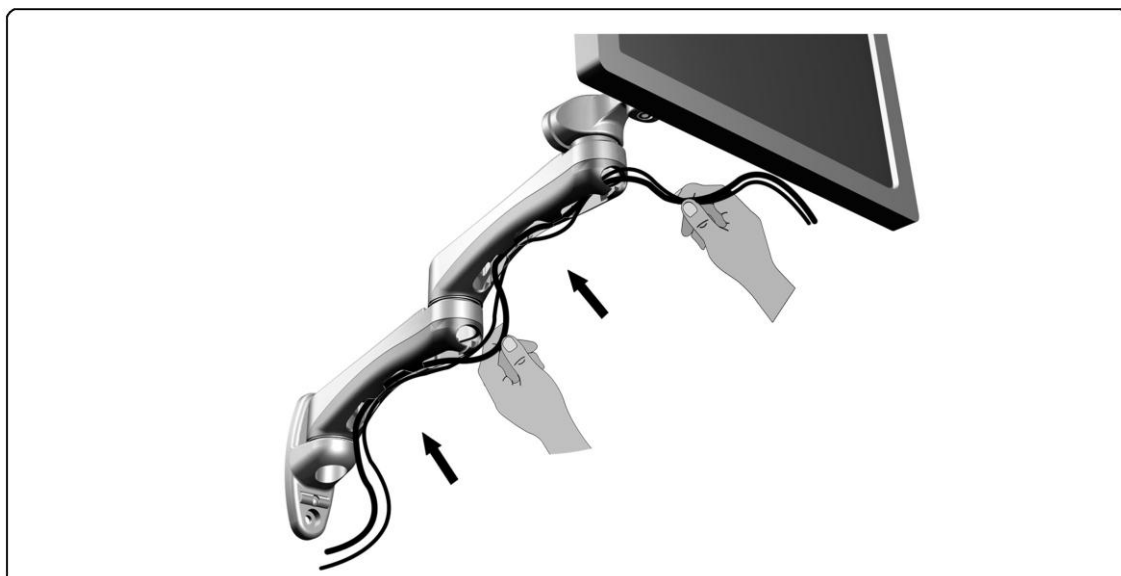

Figure 4-2
2. Feed the cables through the cable bracket entry slot on the underside of the arms as shown (**See Figure 4-2**).